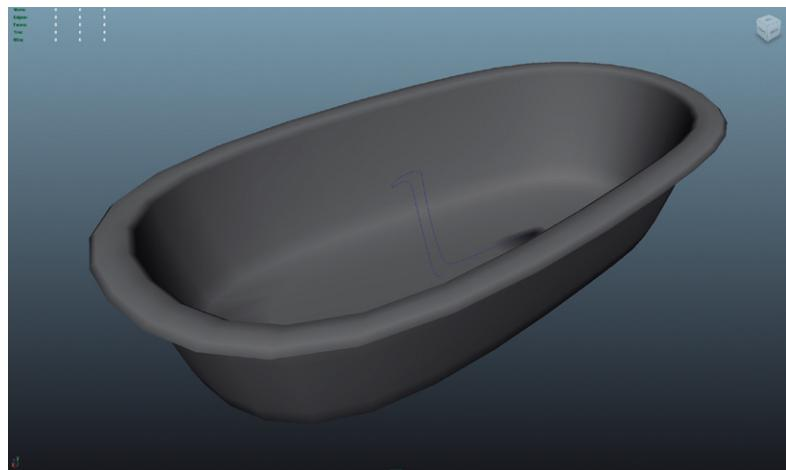

FIG 3.73 Finished tub shape sans legs.
Step 6: Further sculpt the CVs to taste. Do this with the Move Tool and by marqueeing groups of CVs to find the form of the tub you are after. I ended up with Fig. 3.73.